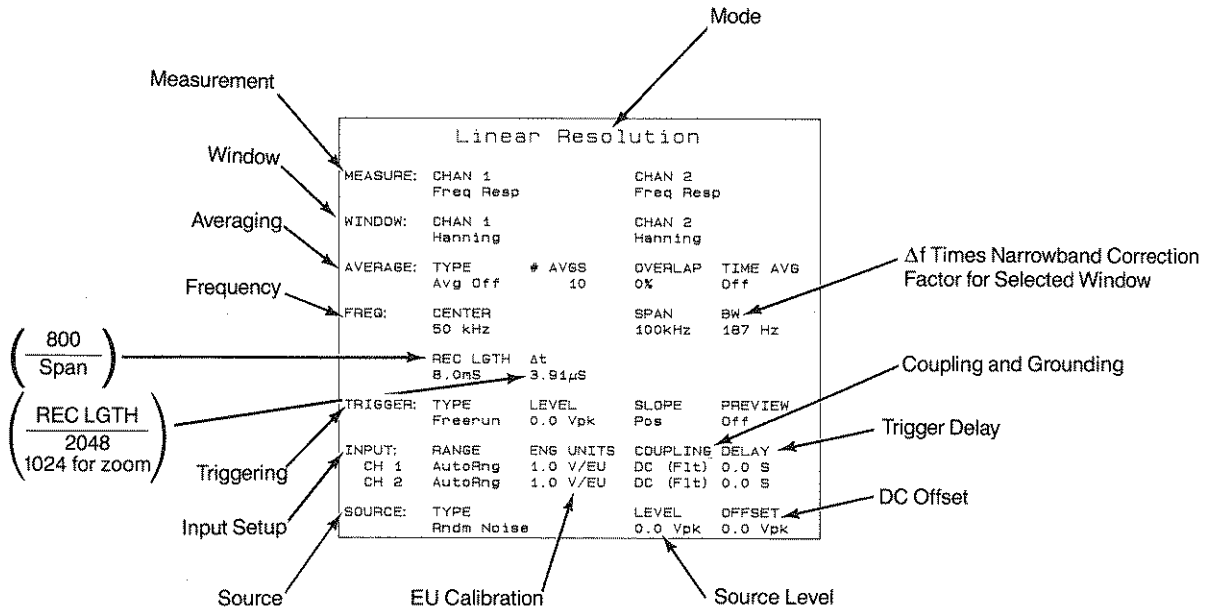

Figure 8-2 The Instrument State Display at Power-On
**STATE/TRACE** toggles between the instrument state display and a measurement or view input display. Figure 8-2 shows the state display at power-on (after completion of the self-test).